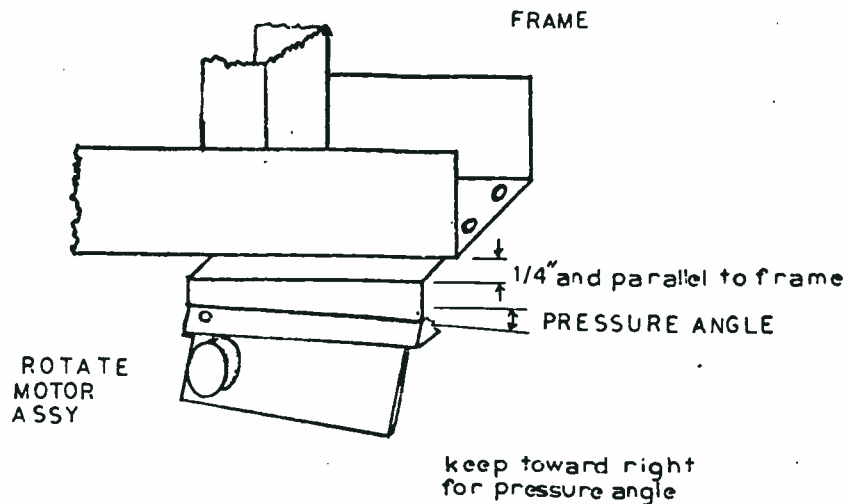

Fig. 2
4. If only the Rotate Motor assembly is being installed, clean rim of drum where drive tires run with alcohol. Place Rotate Motor assembly in position and install cap screw A loosely. Install 5/16" Rod Bolt without cone spring and tighten two upper 5/16" nuts. Slide Rotate Motor assembly as far to right as possible and as far toward rear of Carousel as possible. See Figure 2.